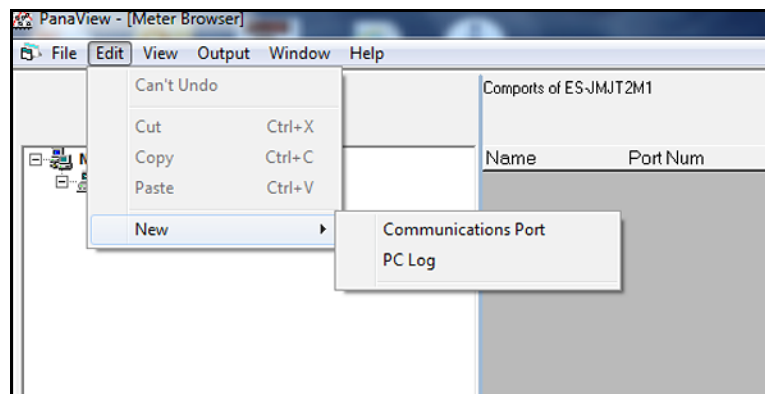

Figure 30: Edit Menu
- Click “*New*” menu option to select it, and a submenu opens with two choices on it (see *Figure 30* below).